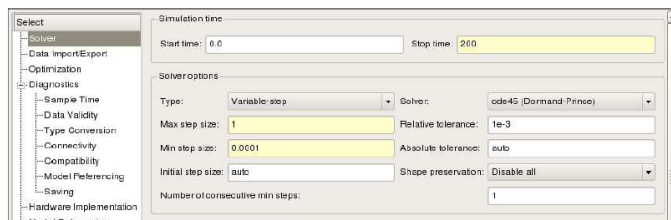

Figure 2: Solver configuration: **Simulation** → **Model Configuration Parameters** (or **Ctrl+E**).
- Configure the solver as depicted in Figure 2.